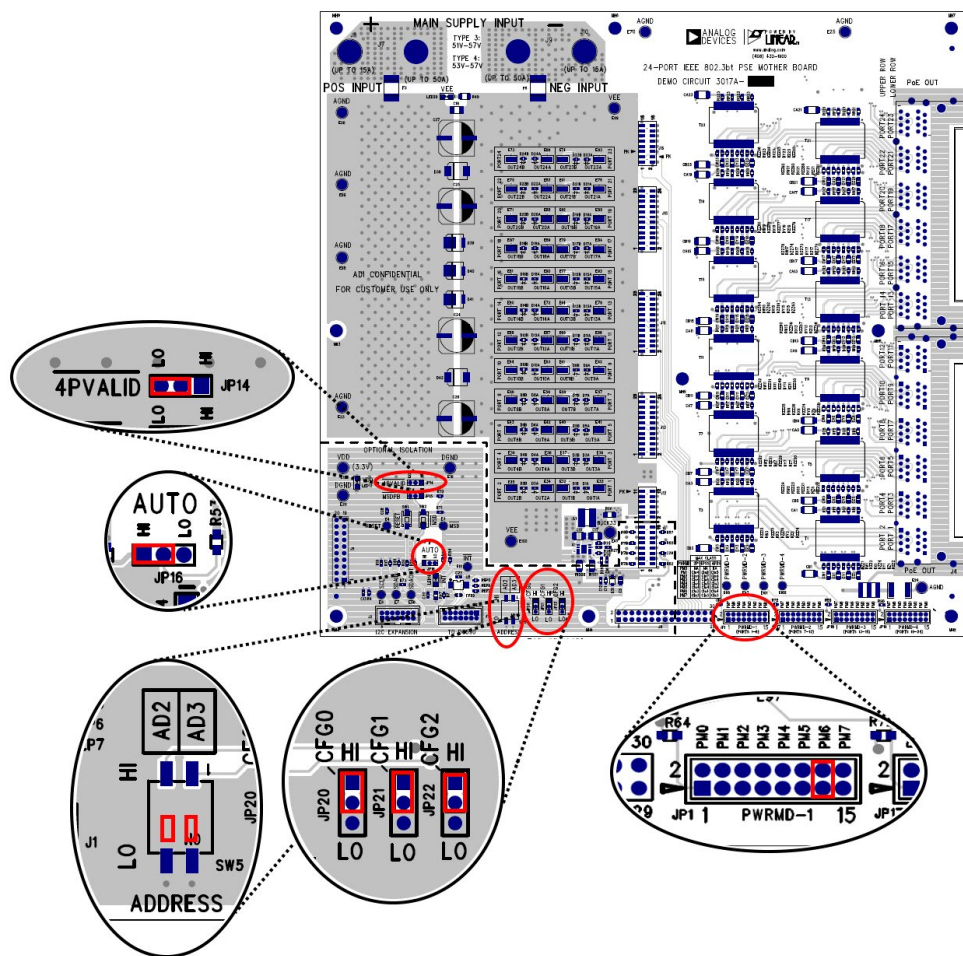
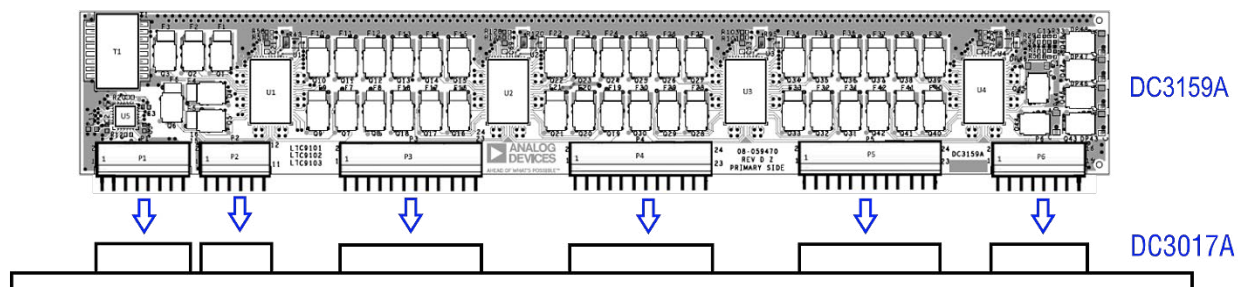
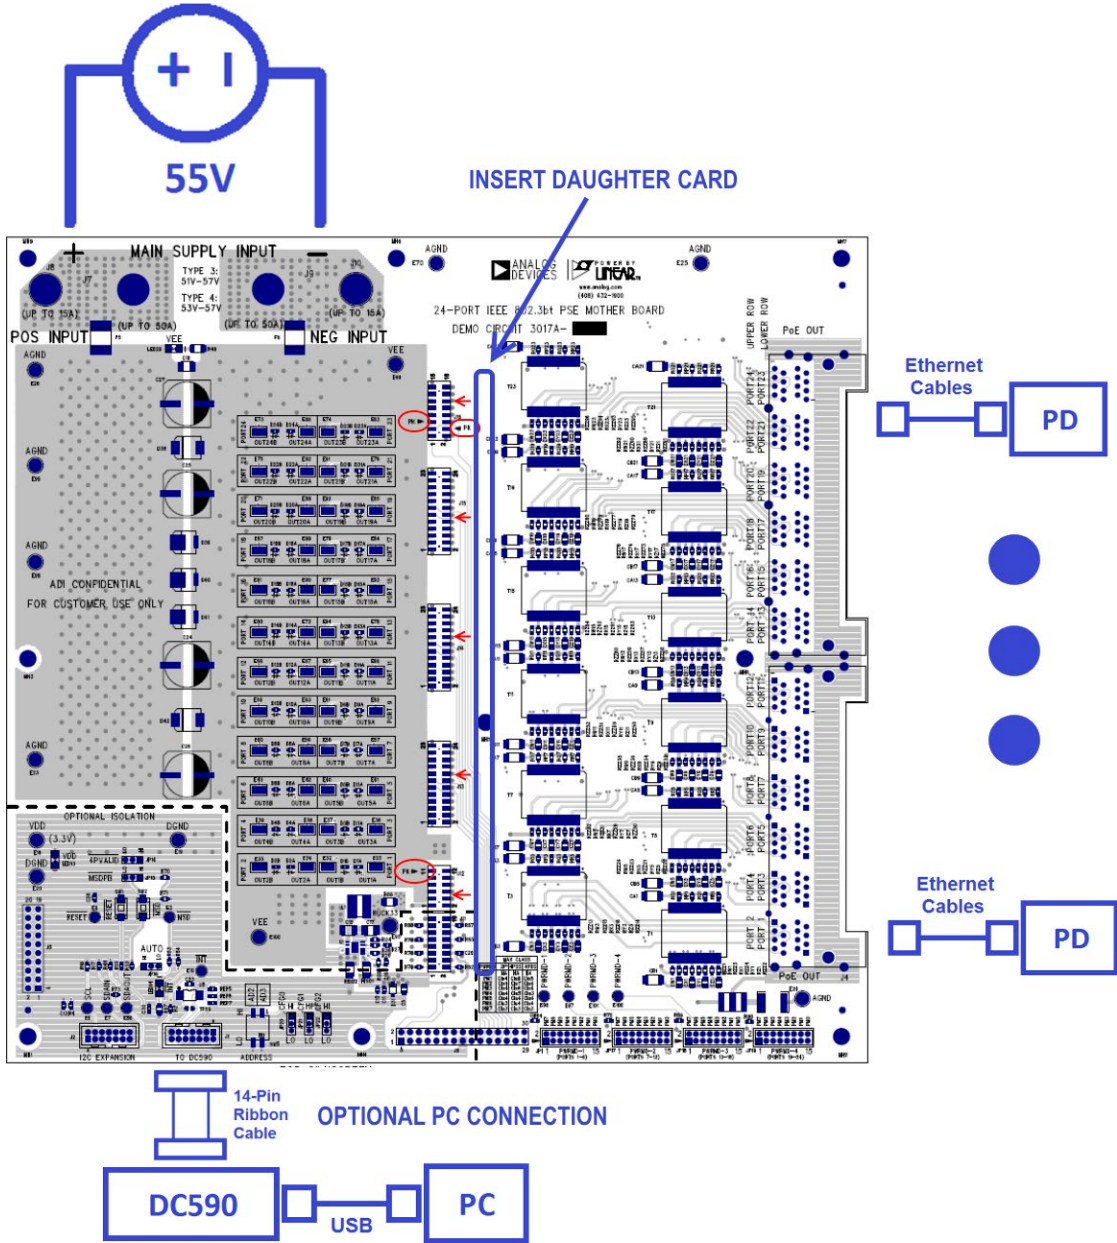

Figure 1. Default Settings for DC3017A Motherboard, Jumpers: 4PVALID, AUTO, PWRMD0, CFG0, CFG1, and CFG2; Switches: AD2 and AD3
Figure 2. Inserting the DC3159A Daughter Card into J1 through J6 of the DC3017A Motherboard
Figure 3. DC3160A-KIT Connections
Follow the procedure below and refer to Figure 1 through Figure 3, and Table 2 through Table 9 for proper equipment setup and default configuration. This default setup will automatically power all valid PDs at all power classes.
6. Align pin 1 of the 16-pin male connector P1 on the DC3159A daughter card with pin 1 of the 16-pin female connector J11 on the DC3017A motherboard as shown in Figure 2. The six male connectors and six female sockets should match. Keyed pins in J16 and J12 assist with the alignment shown in Figure 3. Carefully push the daughter card straight down until the male and female connectors are flush with each other.
7. Connect a supply to the DC3017A motherboard with the positive rail to POS INPUT (+) and negative rail to NEG INPUT (-) as shown in Figure 3. Use a power supply capable of sourcing the maximum sourced power for all ports to be tested. Ramp the supply up to within the recommended voltage range specified in Table 2.
8. Connect up to twenty-four IEEE 802.3af, 802.3at, or 802.3bt PDs to the motherboard's RJ45 connectors J3 and J4, as shown in Figure 3.
When inserting or removing the daughter card into the DC3017A motherboard, verify all supplies and LEDs are off. Push the card straight down for insertion or pull straight up for removal to avoid bending the connector pins. Follow the instructions in the Quick Start Procedure for alignment and refer to Figure 2.